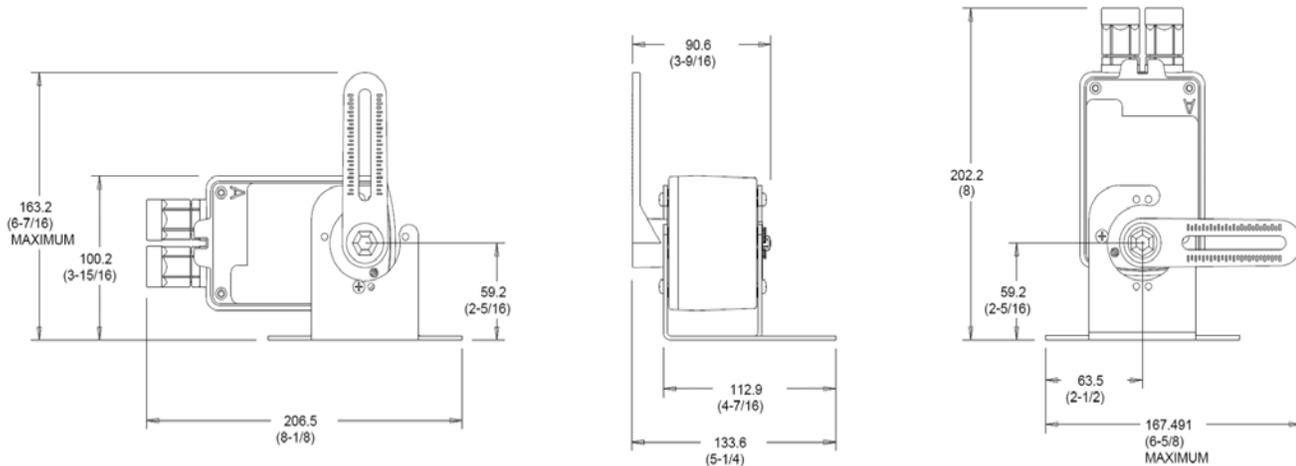
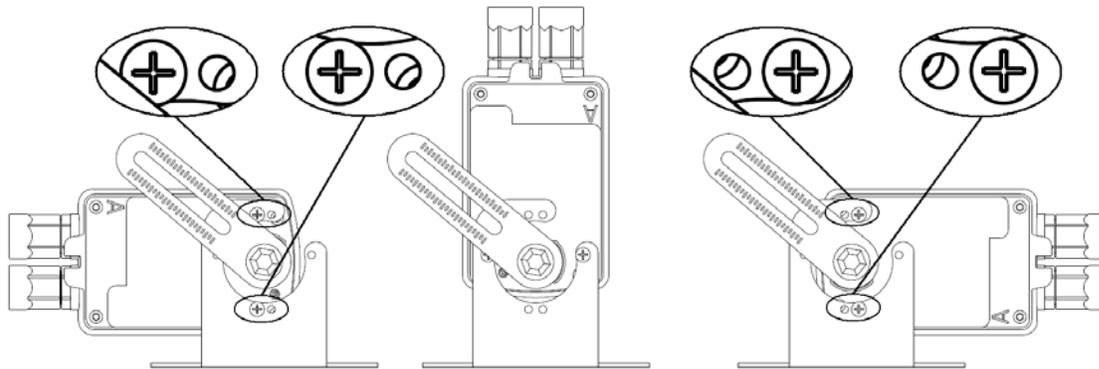

Figure 2: M9203-250 Remote Mounting Kit Overall Dimensions, mm (in.)
Figure 3: M9203-250 Remote Mounting Kit with Actuator Horizontal Left, Vertical, and Horizontal Right
See Figure 2 and Figure 3 for overall dimensions and proper mounting orientations.
The actuator has two general mounting positions, horizontal and vertical, but can be mounted in six different ways: horizontal left, vertical, and horizontal right (each with the option of side A or side B direction). See Figure 2 and Figure 3.
5. Using the four #8 Thread Forming Phillips Screws, secure the actuator to the mounting bracket as shown in Figure 3. Use the recommended torque of 1.7 to 2.3 N·m (15 to 20 lb·in). Note the location in horizontal mounting; the output hub of the actuator must be in the center of the bracket.